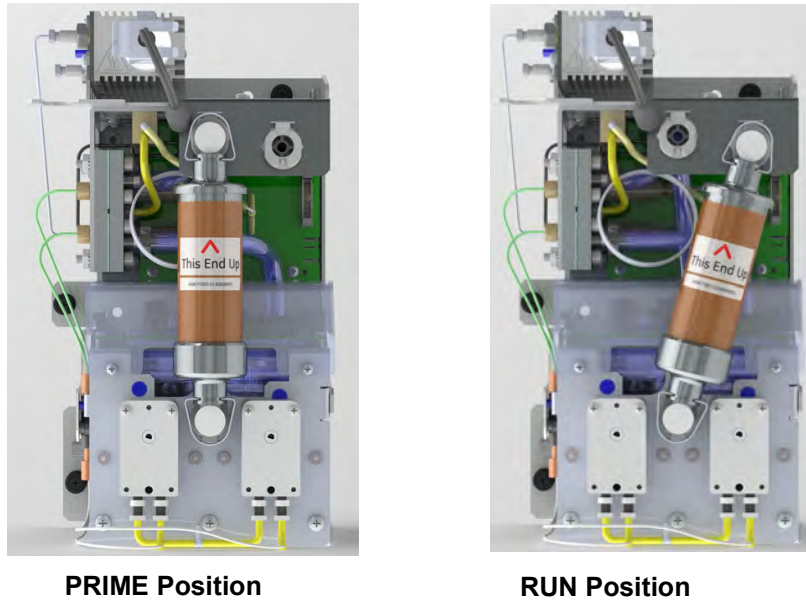

Figure 55: Resin Cartridge — “Prime” and “Run” Positions
9. After verifying that the water level has stabilized to **just below** the top of the reservoir, remove the top valve of the resin cartridge from the prime position. While holding the DI cartridge, simultaneously press the latches on the *Prime* port and the *DI Pump Outlet* port to eject the cartridge. See Figure 55 on page 235.